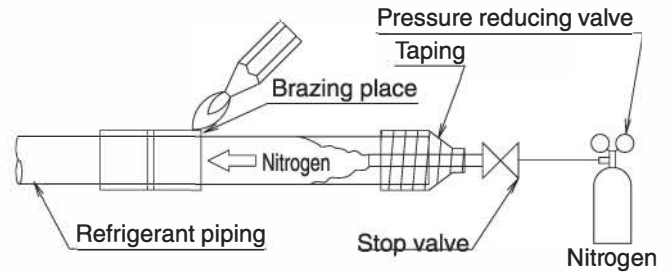

Fig. 9
- Use the insulation for fitting (3) and (4) provided to the liquid piping and gas piping, respectively and conduct heat insulation work. (Tighten both edges of the insulation for fitting (3) and (4) for each joint with clamp (7).)
- Make sure that the joint of the insulation for fitting (4) and (5) for the joint on the liquid piping and gas piping side faces upwards.
- Wrap the middle sealing material (6) around the insulation for fitting (3) and (4) for the joint (flare nut part).
- Before brazing refrigerant piping, have nitrogen flow through the refrigerant piping and substitute air with nitrogen (NOTE 1) (Refer to Fig. 9). Then, carry out brazing (NOTE 2). After all the brazing works are finished, carry out flare connection with the indoor unit. (Refer to Fig. 8)